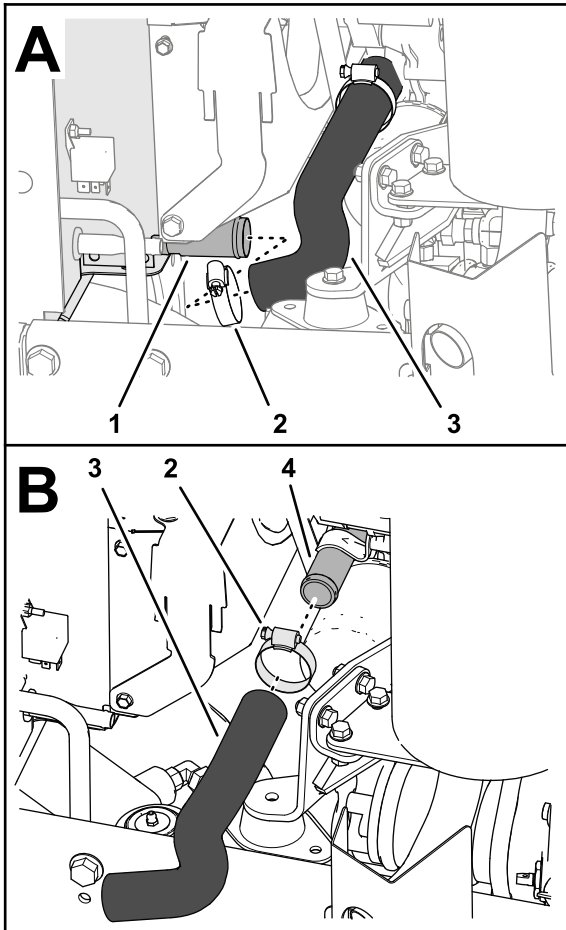

Figure 15
1. Remove the hose clamp that secures the lower radiator hose to the outlet of the radiator, and separate the hose from the radiator (Figure 15).
2. Remove the hose clamp that secures the lower radiator hose to the inlet of the engine, and remove the hose from engine (Figure 15).